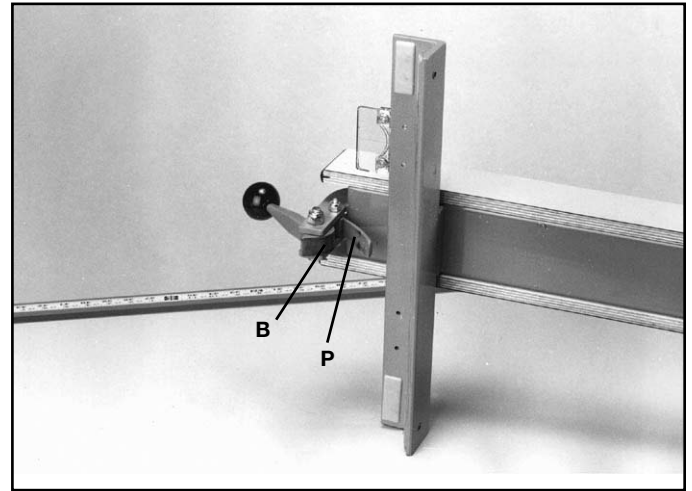

FIG. 32
10. Apply grease to locking handle (B) and camfoot (P) Fig. 32, monthly to prevent wear.